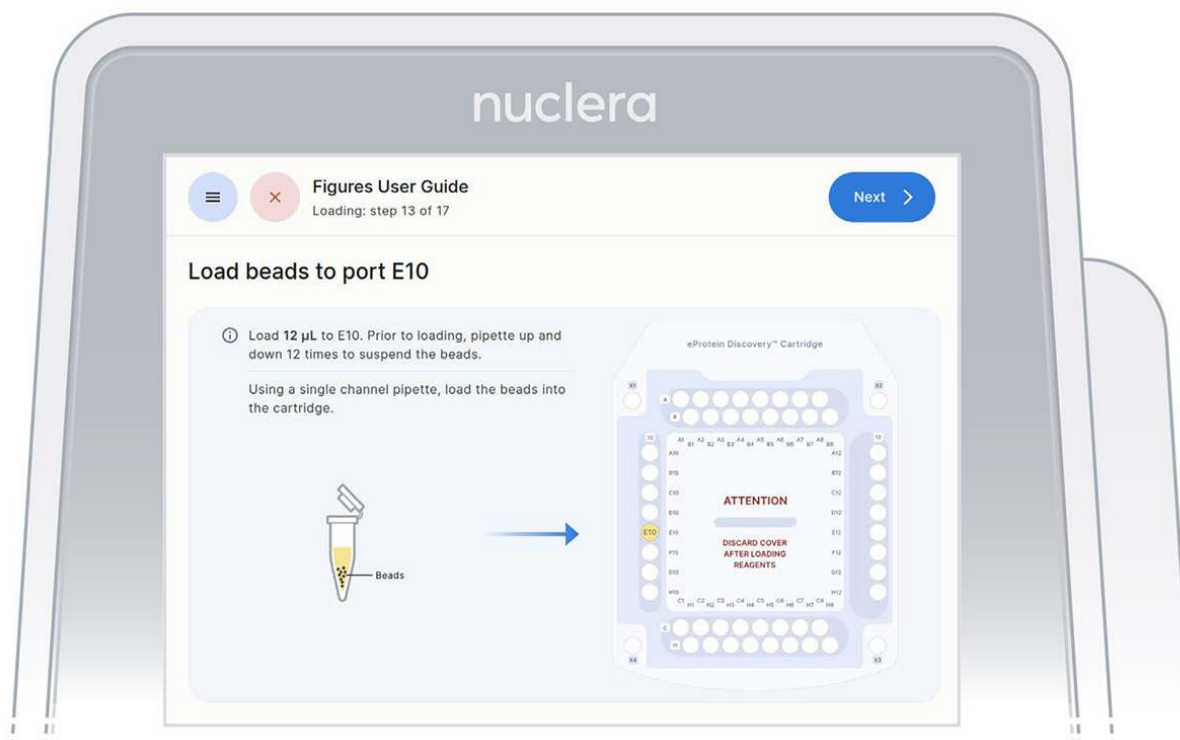

Figure 24: Loading of the Strep beads to port E10 of the cartridge
- ▶ Using a single channel p20 pipette, mix the Strep Purification Beads twelve times by gently pipetting up and down. Be careful not to introduce air bubbles. Aspirate 12 µL of the Strep Purification Beads prepared in a tube and dispense into port E10 of the cartridge (Figure 24).